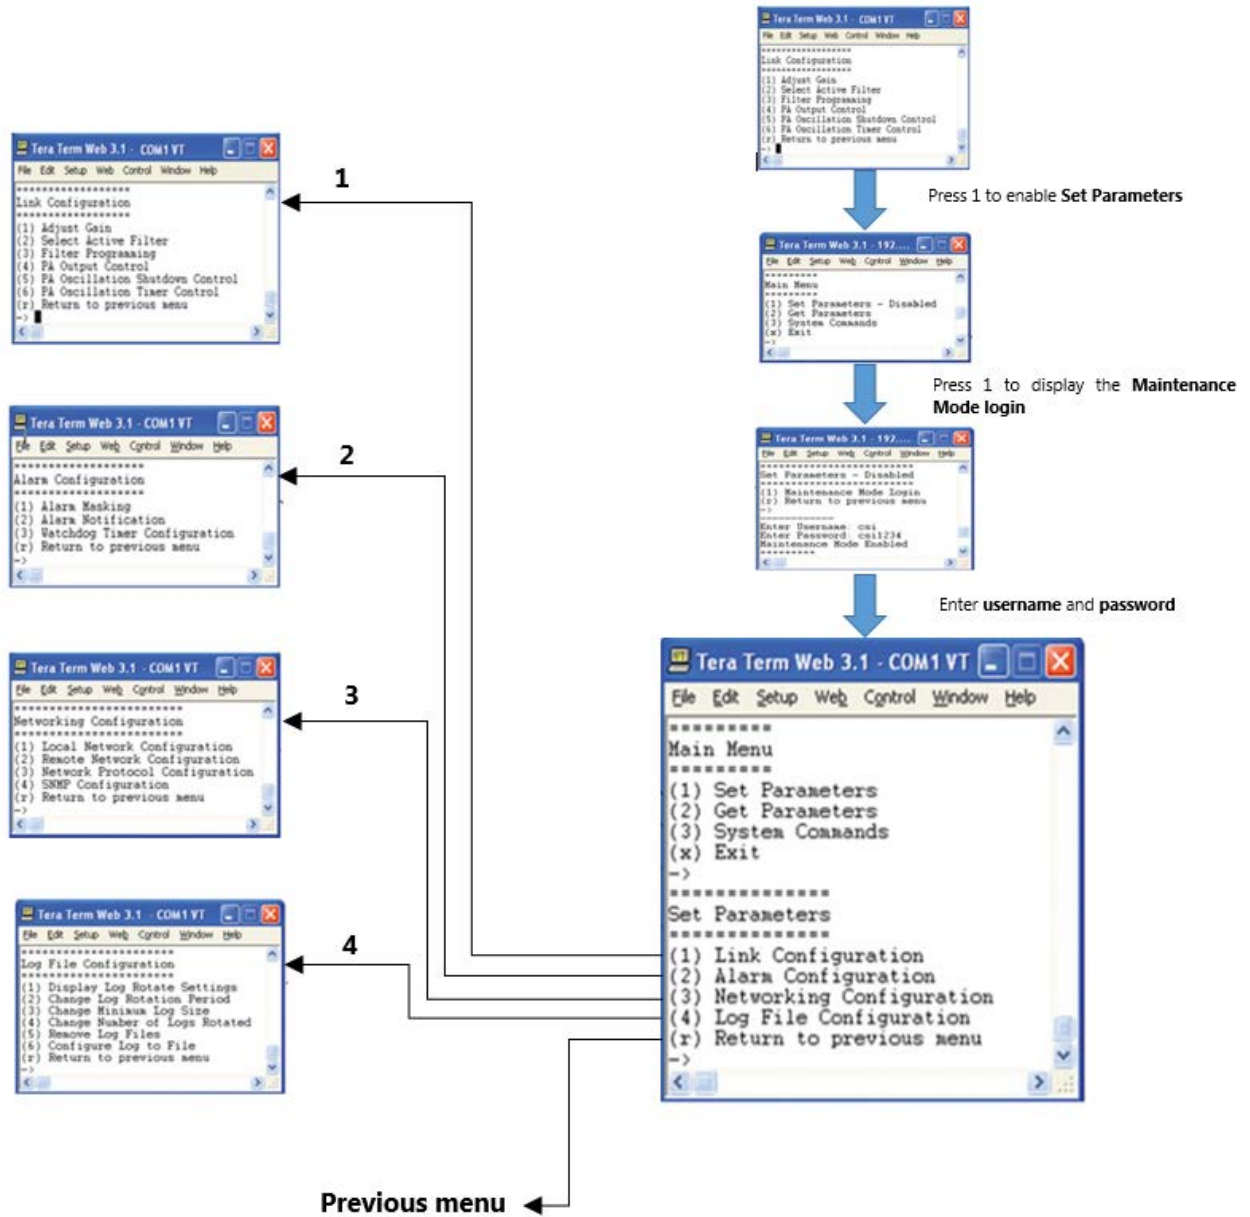

Figure 4-7: TMI Main Menu
6. Enter a username and password and press the **Enter** key. The TMI Main Menu displays, Figure 4-7.